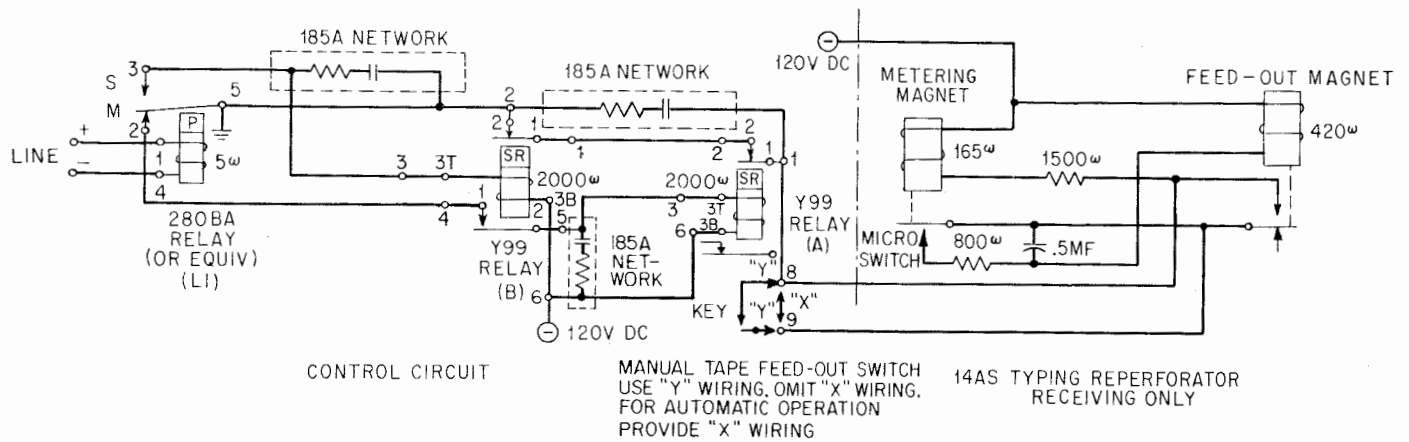

Figure 2 — 14-Type Typing Reperforator
3.01 Refer to Figure 2. The normal idle condition occurs with the relay in the control unit operated to marking; the slow release relays are released, the metering magnet is operated, and the feed-out magnet is released.